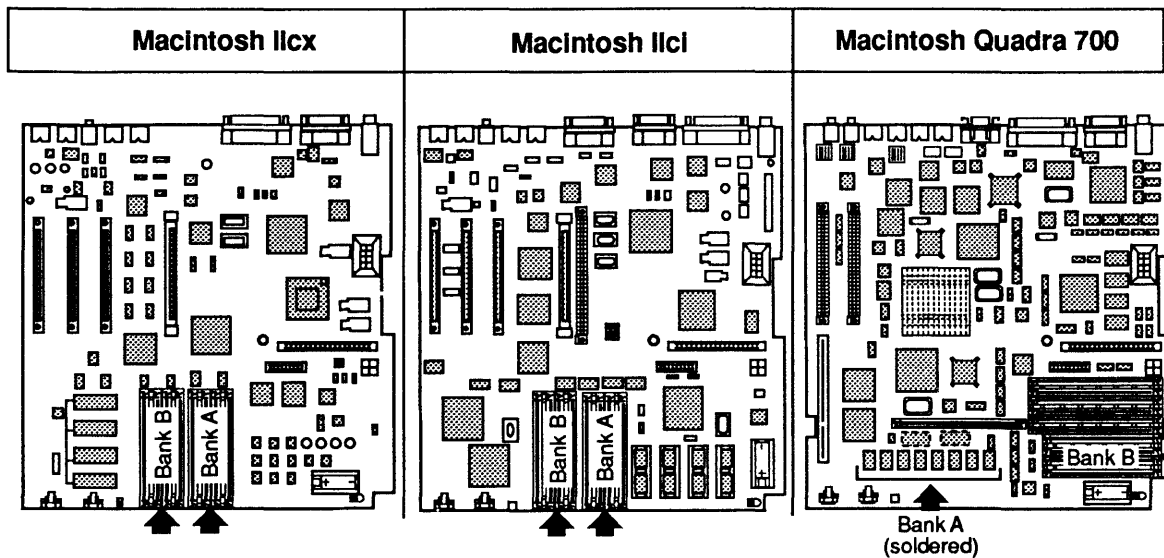

Figure 4-1 DRAM SIMM Verification
3. **Figure 4-1.** If the computer is a Macintosh IIcx or IIci, install four known-good DRAM SIMMs in Bank A. If the computer is a Macintosh Quadra 700, install four known-good DRAM SIMMs in Bank B.
8. **Figure 4-1.** To verify DRAM SIMMs installed in Bank B on the Macintosh IICx and IICI, install four known-good DRAM SIMMs in Bank B and repeat the procedure described in steps 4 through 7.